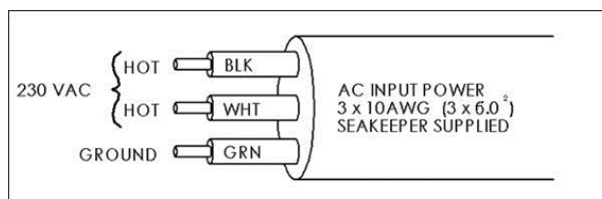

FIGURE 3 – CABLE 2 WIRE CONNECTIONS AT AC POWER DISTRIBUTION PANEL
- ii. Connect 230 VAC wires in CABLE 2 to a 20 Amp, double-pole Circuit Breaker at an AC power distribution panel according to Figure 3 above.